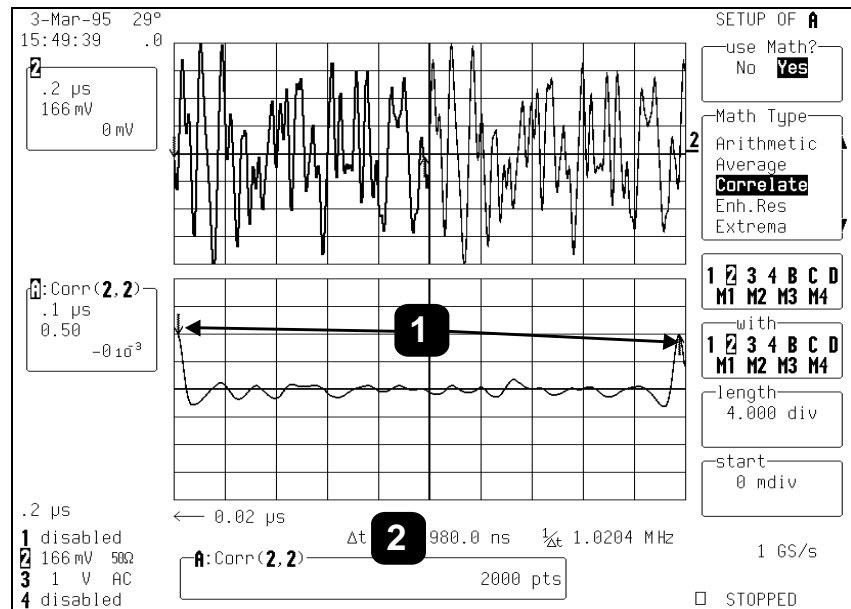

Figure 8.6
Figure 8.6 shows an example of determining the period for a PRML waveform using the measurement cursors (Annotation ❶). The period is 980 ns (❷).